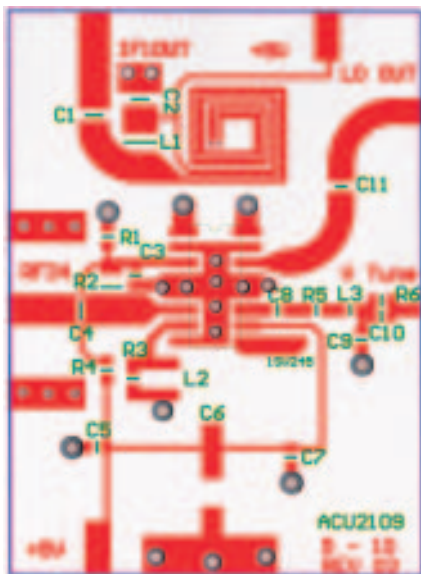

Figure 19: ACU2109 Evaluation Board Top View
(1) Case temperature is 15 °C higher than Ambient Temperature, when Ambient Temperature is ≤ +65 °C, using PC Board Layout shown in Figures 19 - 20.
(1) Case temperature is  $15\text{ }^\circ\text{C}$  higher than Ambient Temperature, when Ambient Temperature is  $\leq +65\text{ }^\circ\text{C}$ , using PC Board Layout shown in Figures 19 - 20.
(1) As measured on ANADIGICS Evaluation Board shown in Figures 19 - 20.
(2) 138 channels, 0 dB tilt, +7 dBmV flat
(3) 138 channels, -10 dB tilt, +7 dBmV at 55.25 MHz
(4) As measured in ANADIGICS test fixture, using Anaren 3 dB 180° coupler (part no. 30055) and external bias-tees.
(5) All channels 99% AM modulated at 15 kHz, including adjacents
(8) Case temperature is  $15\text{ }^\circ\text{C}$  higher than Ambient Temperature, when Ambient Temperature is  $\leq +65\text{ }^\circ\text{C}$ , using PC Board Layout shown in Figures 19 - 20.